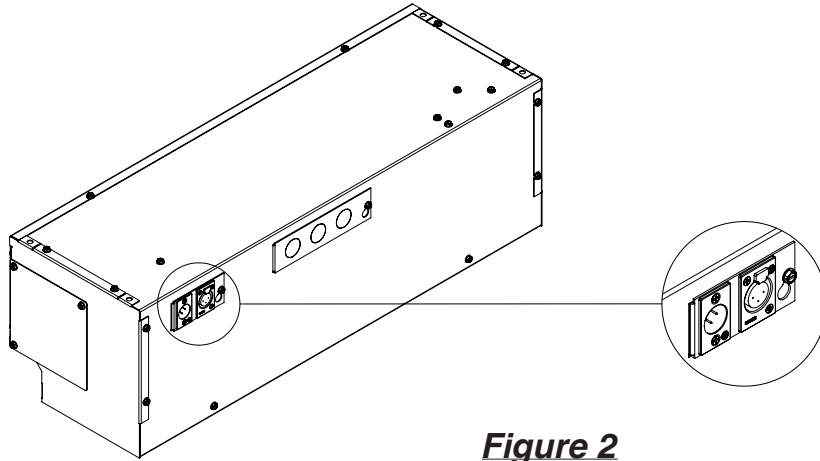

Figure 2
2. If the fixture requires digital control, the fixture will have locking XLR-type plugs for the control cables. Install the control wiring above the T-track grid. Male and female plugs are installed into receptacles (Figure 2) on each fixture; as they are wired in parallel, the control wiring can be daisy-chained.